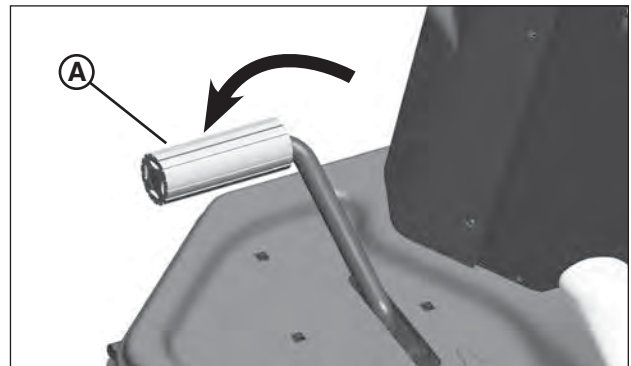

Figure 5: Clutch/brake pedal
4. Fully depress the Clutch/Brake Pedal (A, Figure 5).